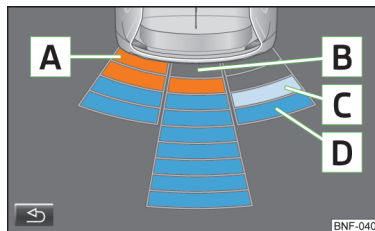

Fig. 85
Screen display » Fig. 85
- A** An obstacle appearing in the collision zone is shown as an orange-colored segment » Fig. 85. **Do not drive the vehicle!**
- › By tapping the symbol button  in the multifunction display screen » Fig. 85.